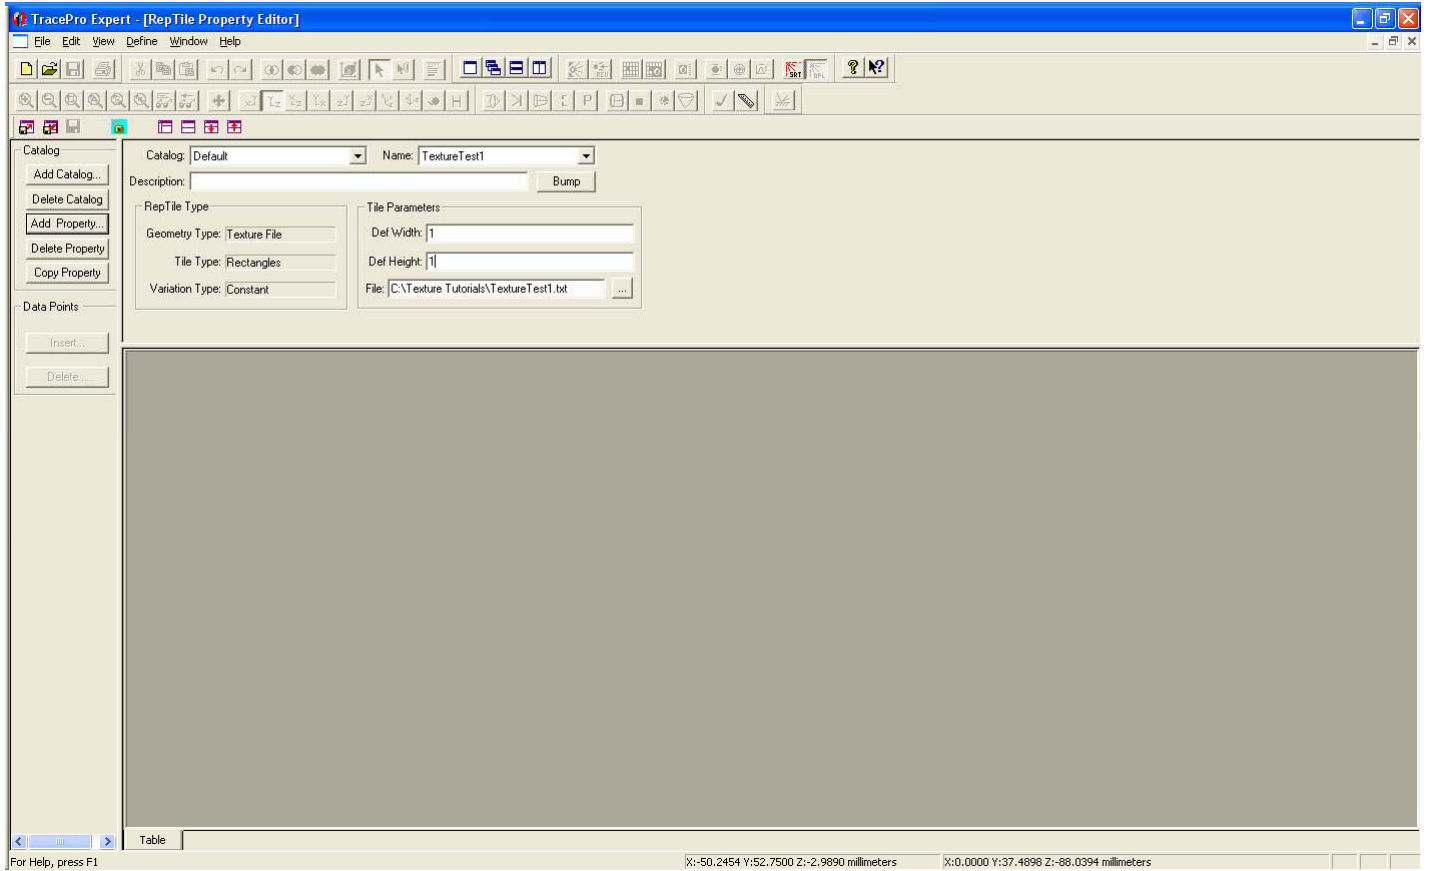

Figure 22. The final RepTile Property Editor for TextureTest1 Property.
2. Select **Add Property...** (in the desired Catalog) in the left-hand part of the RepTile Editor (see Fig. 22),
5. Select the browse button (...) to the right of the **File:** line in the upper part of the RepTile Editor (see Fig. 22),
8. Enter the **Def. Width** and **Def. Height** parameters as shown in Fig. 22.